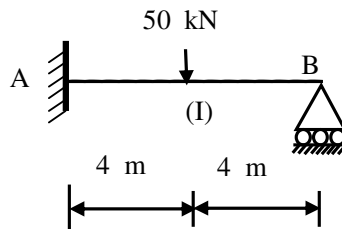

Fig.5 Q.5
Q.5 For a beam shown in the fig.5, using finite element method, determine: